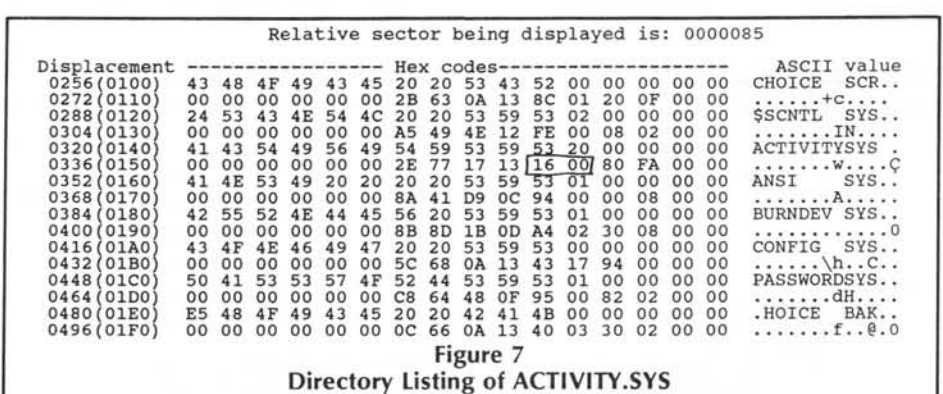
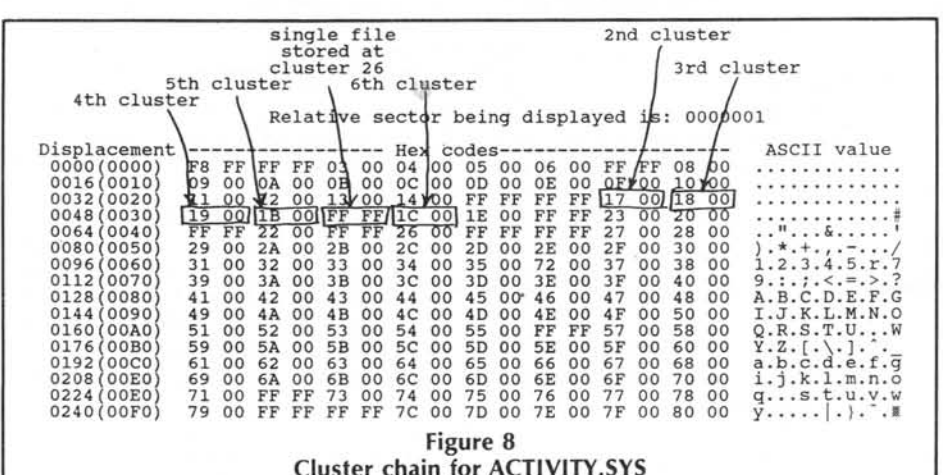

Figure 7
Figure 8
To see how this works, let's look at the cluster chain of an actual fragmented file. Figure 7 shows the directory entry for ACTIVITY.SYS, a file which I determined is definitely fragmented. The starting cluster for this file is 22 (0016h). This number multiplied by two also determines the offset from the start of the FAT where the next cluster number is located. Therefore, the next cluster number for ACTIVITY.SYS occurs at offset 44 from the start of the FAT. Figure 8 is a dump of the first sector of the FAT. At offset 44, the value of the next cluster for ACTIVITY.SYS is 0017h or 23 decimal. Remember that each cluster value serves two functions: (1) the value